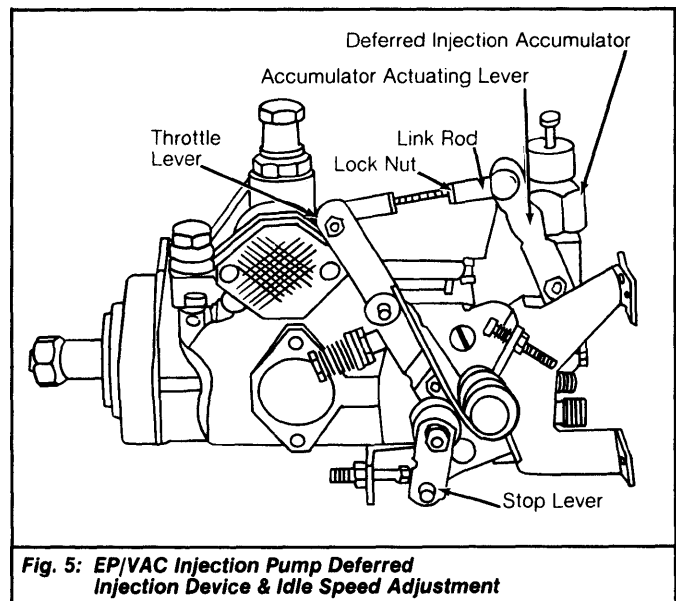

Fig. 5: EP/VAC Injection Pump Deferred Injection Device & Idle Speed Adjustment
2) Push accumulator lever to full open position. This position is evident by minimum engine speed. Adjust idle stop screw to obtain proper idle speed of 730 RPM. See Fig. 5.